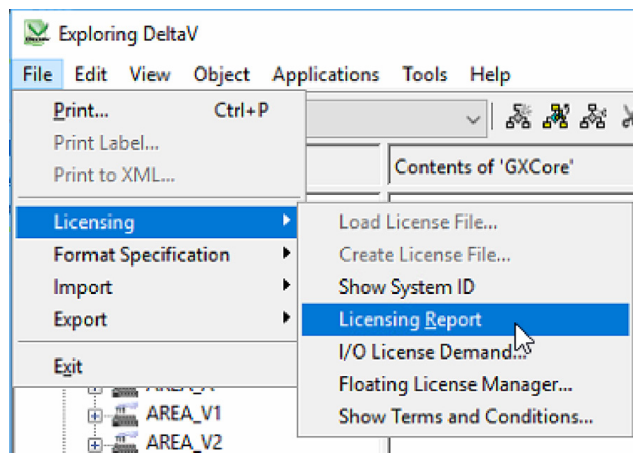

Figure 1.8. Location of Licensing Report in the File menu.
3. Open the **File** menu in the **Exploring DeltaV** window, select **Licensing**, then **Licensing Report** (Figure 1.8).